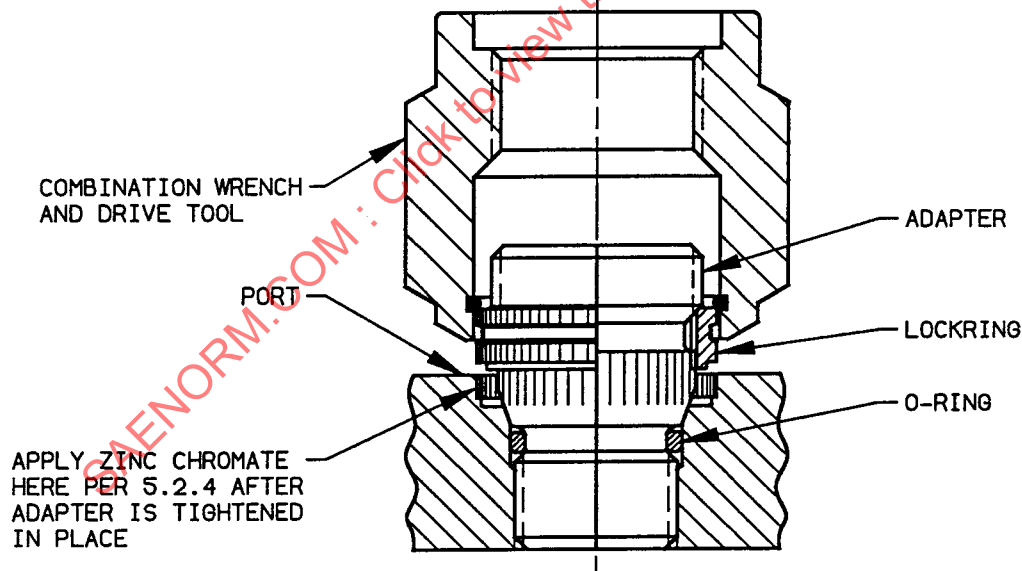

FIGURE 3 - Torquing Adapter Assembly
5.2.3 Using the applicable combination wrench and drive tool in Table 2, engage the serrations of the tool with the external serrations of the locking per Figure 3. Place a torque wrench of the proper size over the hex of the wrench and apply a torque equal to the minimum value specified in Table 2. Note the relationship of the locking serrations with respect to the prebroached serrations in the port. If they match, proceed to 5.2.4. If the locking serrations do not match the prebroached serrations in the port, continue to slowly torque the adapter toward the maximum value allowed in Table 2 until the serrations match. This will normally take between 3 and 8° of turning, the maximum value need not be reached if the serrations align themselves prior to that value. Do not exceed maximum torque values.